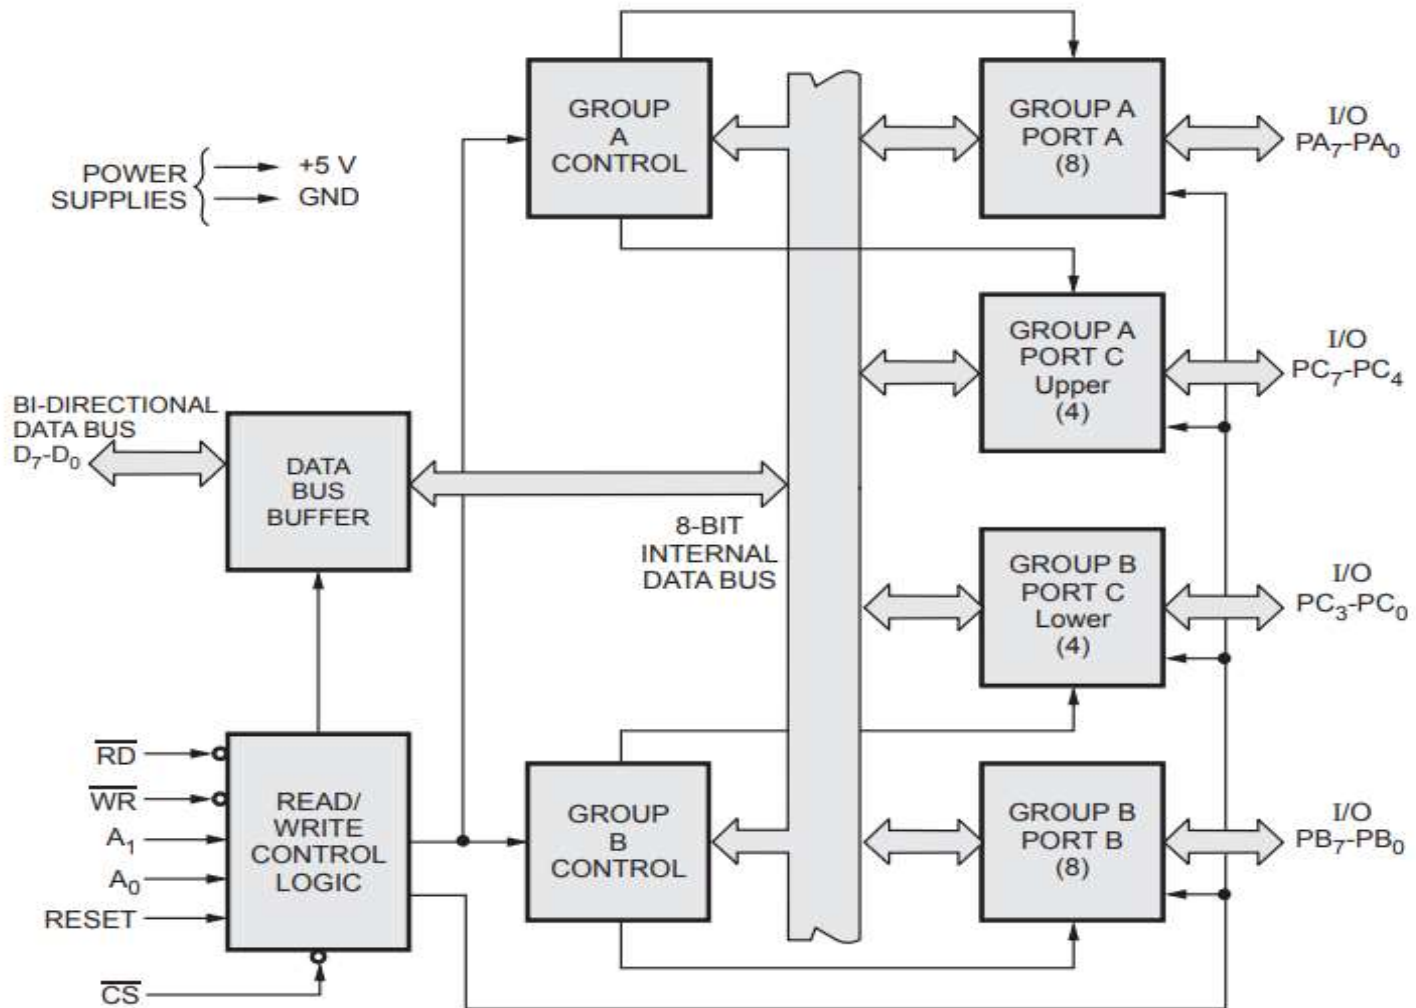

Fig. 3.2.1 Block diagram of the 8255
- Fig. 3.2.1 shows the internal block diagram of 8255A.
(See Fig. 3.2.1 on next page.)